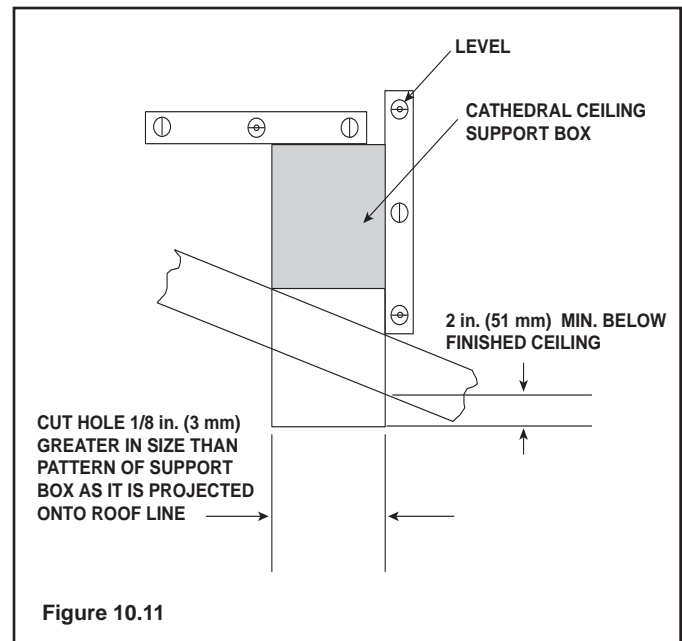

Figure 10.11
- Lower the support box through the hole in the roof until its bottom is at least 2 in. (51 mm) below the ceiling (Figure 10.11).